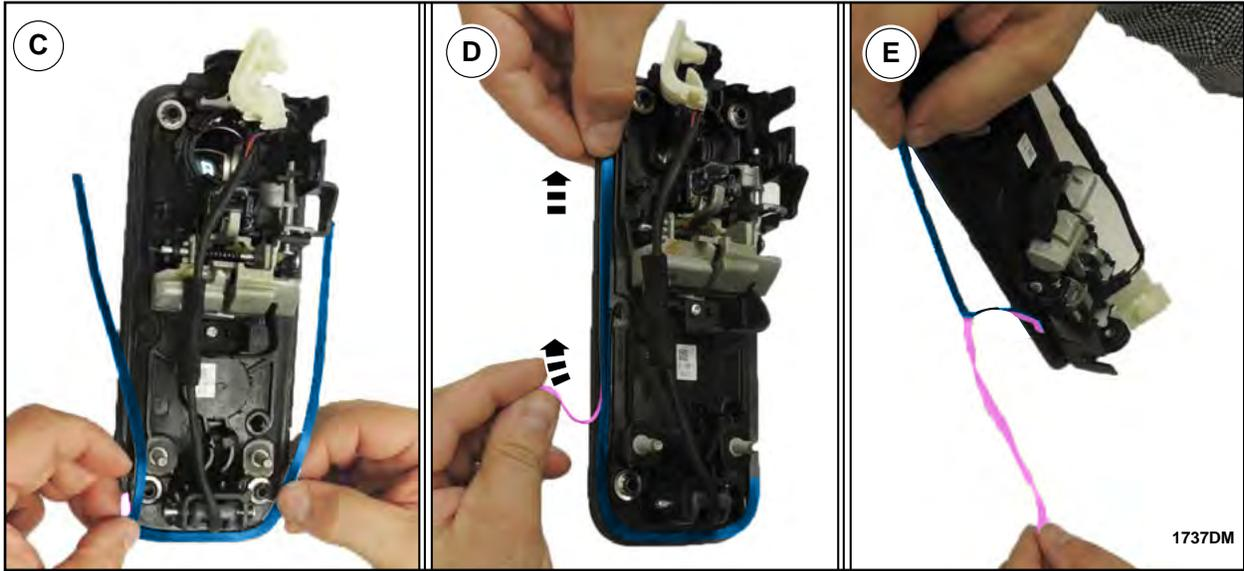

FIGURE 94
- C. Align the marks made on the Foam K and exterior door handle and adhere the back center portion to the exterior door handle as shown in Figure 94.
- D. Lay one side of Foam K down on the exterior door handle and without stretching the foam pull off the adhesive backing as you adhere Foam K to the exterior door handle as shown in Figure 94.
- E. Remove the protective backing from the other side leg of Foam K as shown in Figure 94.